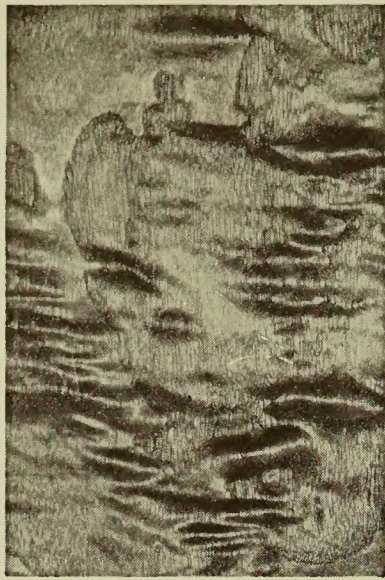

Fig. 7
### B. *Stumpwood* or Butts (Fig. 7).
- (d) Butts or Stumpwood (from almost plain to 80% figure). (Figs. 7, 10 and 11).